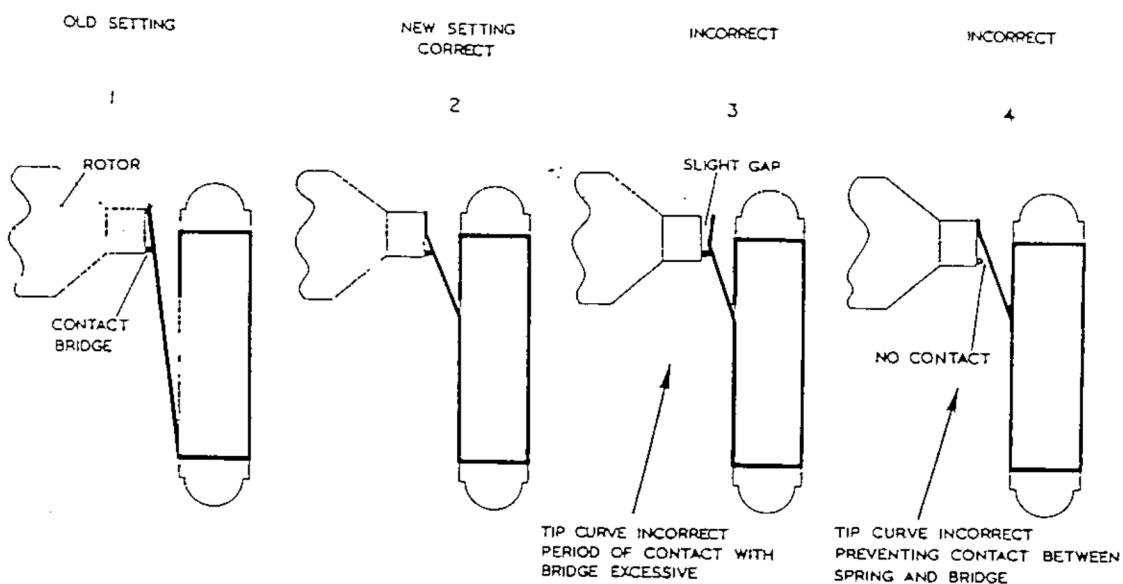

Fig.8 Setting of the cocking contact spring
49 Assemble the rotor to the cover, and check that the contour of the cocking contact spring and its relation to the contact bridge of the rotor are as shown in fig. 8. Remove the rotor from the cover, and, if necessary, proceed as follows:
49.2 Using the tweezers, straighten the internal prongs as shown in 2 in fig. 8. Fit the switch insert to the cover, ensuring that it is firmly secured to the cover.
49.3 Assemble the rotor to the cover; check the contour of the contact and its relation to the contact bridge of the rotor (2 in fig. 8). When the contact spring is correct, remove the rotor from the cover, and complete the assembling and testing as detailed in this chapter.